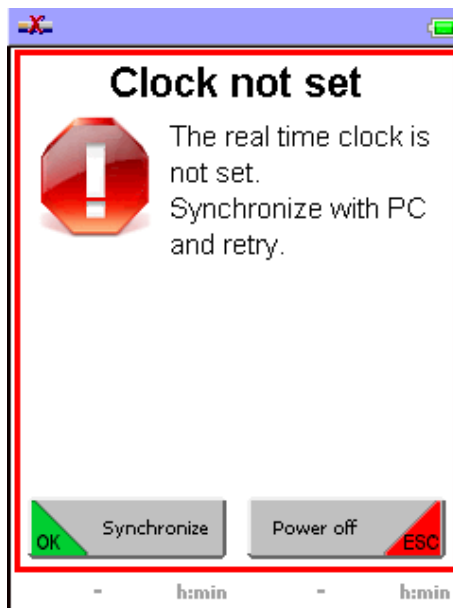

Fig. 8: Message
2. ➤ If the control unit (BE) has never been synchronised with a PC, the message Fig. 8 is displayed. Synchronise the control unit with a PC (↪ *Chapter 1.11 'Data exchange between PC and control unit' on page 21*) and restart the control unit (BE) (↪ *'Starting' on page 6*).
3. ➤ If the message Fig. 8 is displayed in relation to an already synchronised control unit, the internal clock battery is faulty. Have the battery exchanged by PLARAD® service.